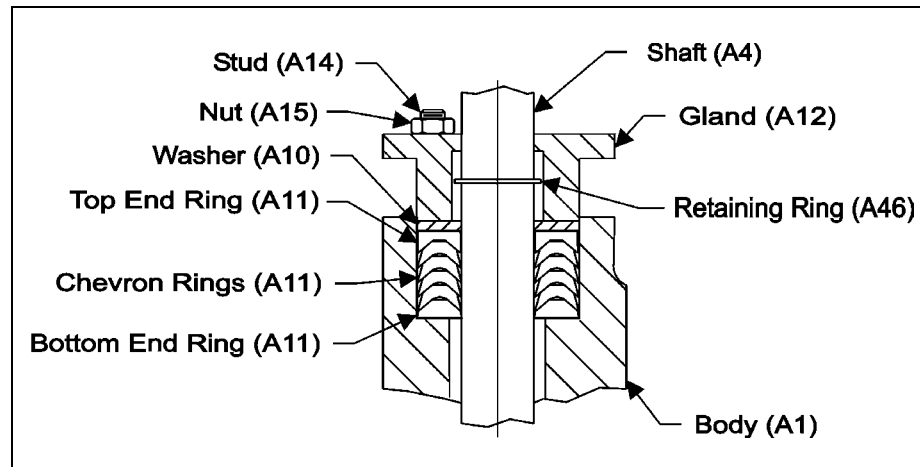

Figure 3 – Packing Option (TC)
- a. Place the packing in the body, one ring at a time, in the configuration shown in Figure 3. Do not lubricate.